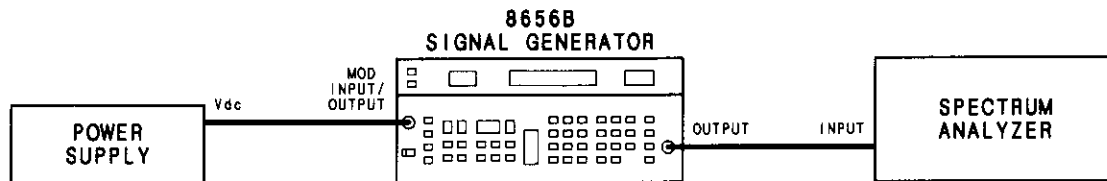

Figure 5-22. DC FM Adjustment Setup
4. Connect the Signal Generator RF OUTPUT to the spectrum analyzer SIGNAL INPUT 2 and the MOD INPUT/OUTPUT to the power supply +1 Vdc as shown in Figure 5-22.